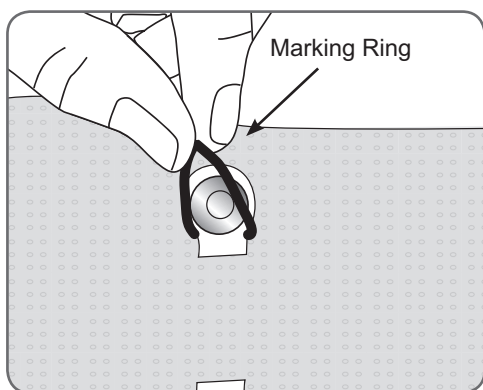

Figure 8-48: Attaching the Thigh electrode marking ring.
2. The thigh electrode marking ring slides over the snap. See Figure 8-48.